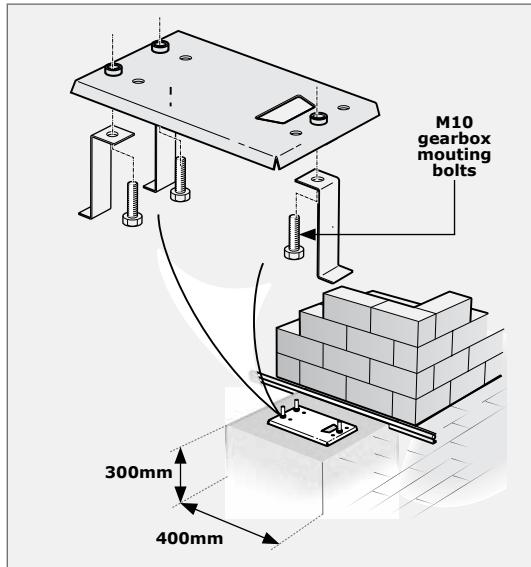
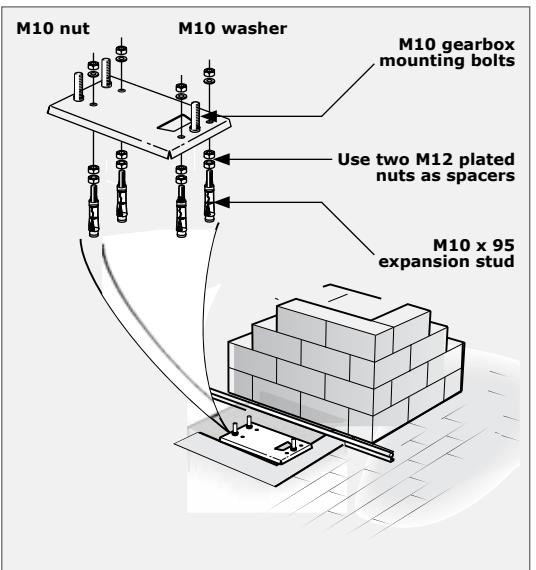

FIGURE 12
FIGURE 14
- The foundation plate can either be set into a concrete foundation, as in Figure 12 or bolted down onto an existing concrete plinth as in Figure 14.
2. Make sure that all cables and conduits protrude at least 400mm above the baseplate once installed as shown in Figure 14.